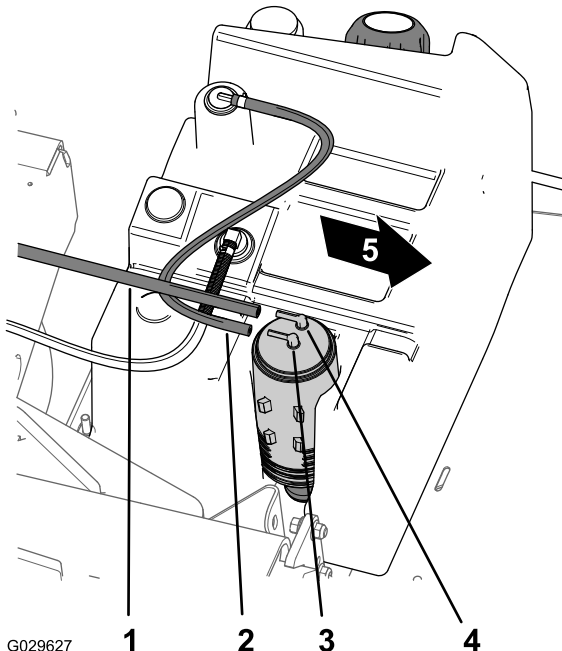

Figure 46
- Remove the vacuum hose from the fitting on the carbon canister marked Purge (Figure 46).
- Remove the fuel-tank hose from the fitting on the carbon canister marked Fuel Tank (Figure 46).
8. Assemble the vacuum hose onto the fitting on the carbon canister marked Purge and the fuel-tank hose to the onto the fitting marked Fuel Tank (Figure 46).